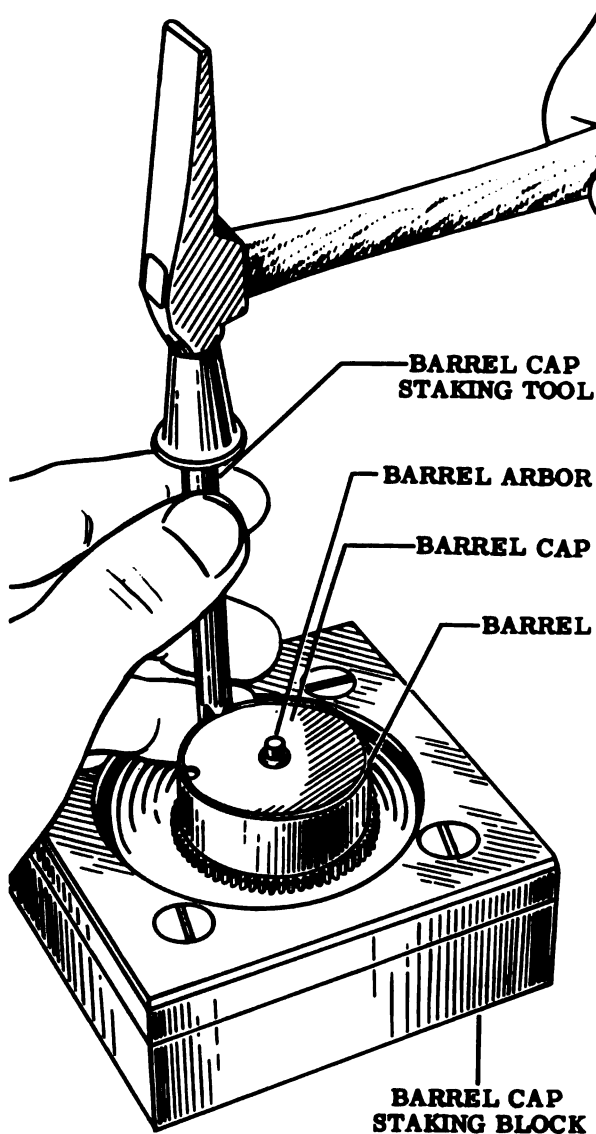

Figure 119
12. Put on the barrel cover and stake it in position in three places with the special staking tool, Tool No. 11A. See Figs. 119 and 120.